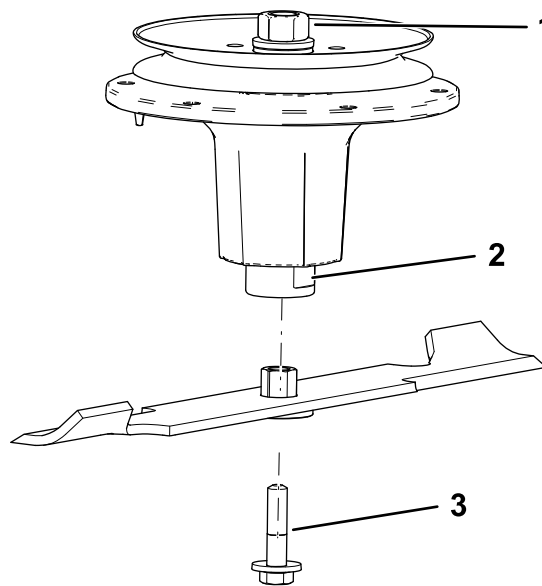

**Figure 79**
1. Install the bushing through the blade with the bushing flange on the bottom (grass) side of the blade (Figure 79).